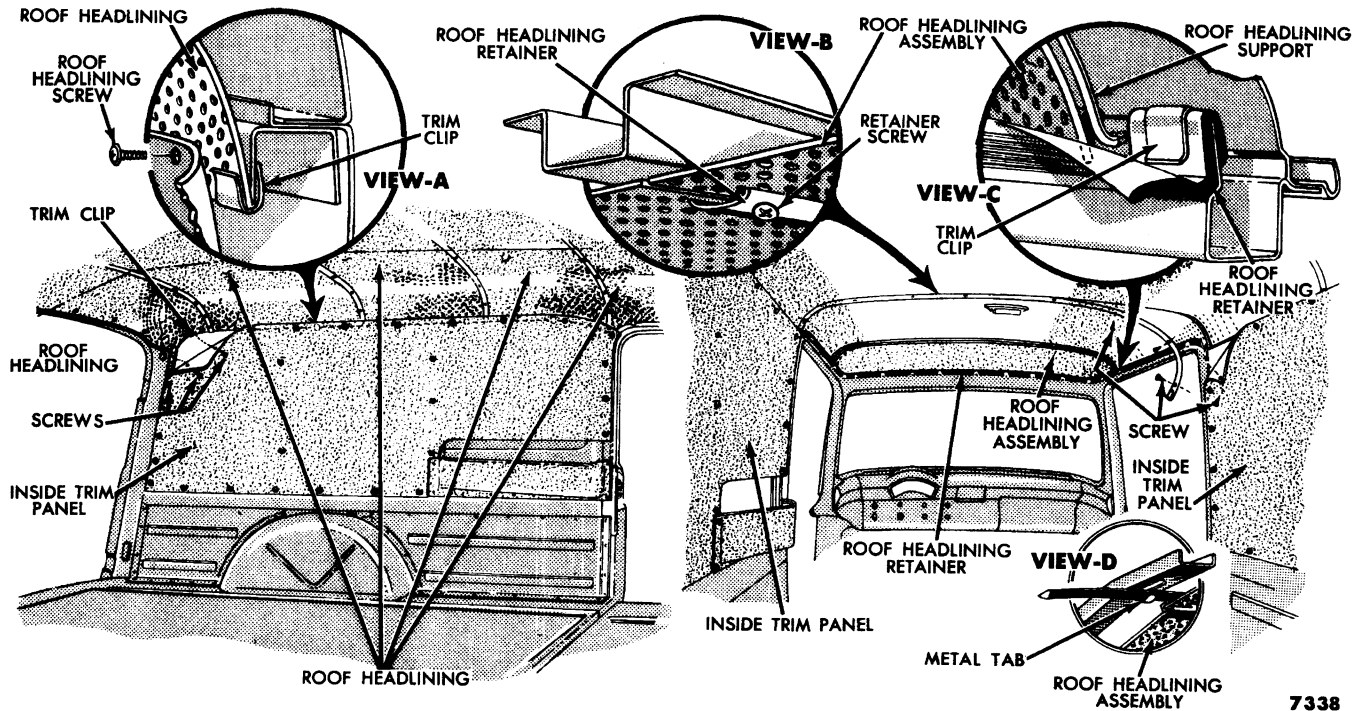

Fig. 11—Roof and Quarter Trim Panels—Panel Delivery
(4) **ROOF HEADLINING AND INSIDE TRIM PANEL—PANEL DELIVERY.** The roof headlining is installed in two sections and can be serviced individually (fig. 11).
The roof headlining retainer in the driver's compartment is attached with three clips along each side and one at the centerline above the windshield. The front and side edges of the roof headlining are inserted into the retainer ("C" fig. 11). The center is secured with one screw. The rear edge of the roof headlining is secured with screws, then covered with a moulding.
Each section of the roof headlining in the package compartment is secured along the sides by a trim clip ("A" fig. 11). The junction line between each section is covered by a moulding ("B" fig. 11).